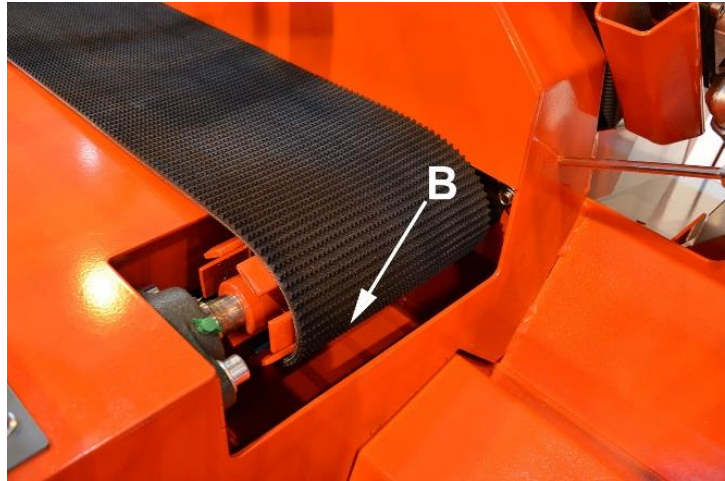

Figure 32.
6. Insert the new belt from the side of the input conveyor's drive roller through opening B (Figure 32), until you can pull the belt out from other end C (Figure 33). Note! If necessary, remove the guard of the input conveyor in accordance with the instructions in Section 4.5.